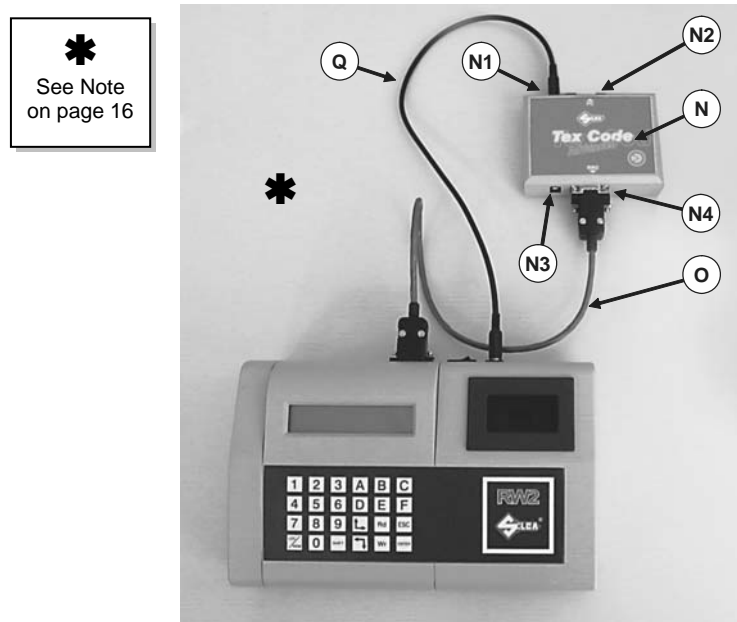
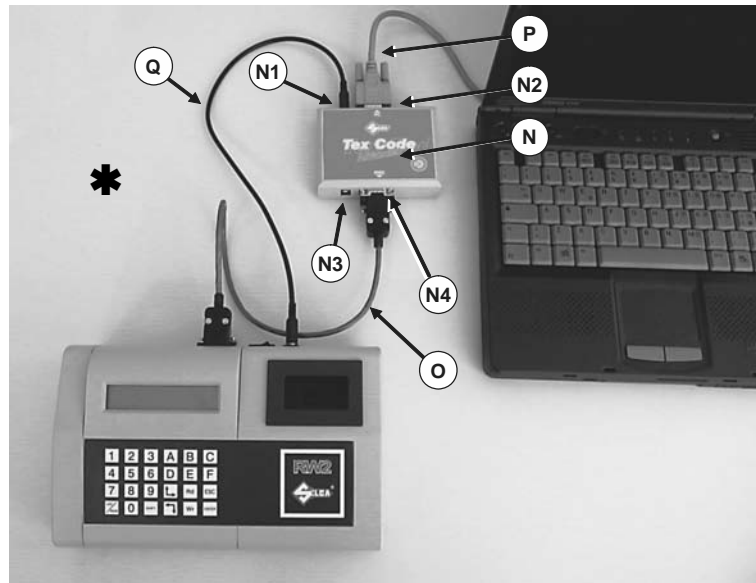
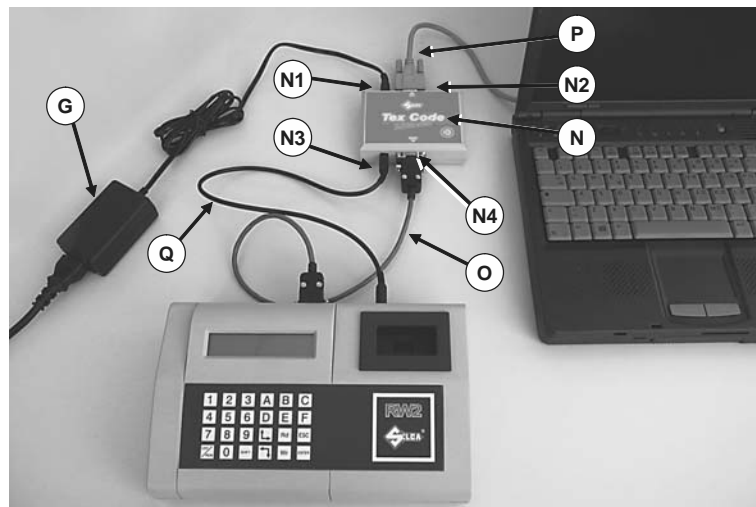

Fig. 6
Fig. 9
Fig. 10
The two figures "Fig. 6" and "Fig. 7" show the various uses for the machine and module.
Software for both the machine and the module is upgraded separately and independently through the connections shown in "Fig. 9" or "Fig. 10". Use an RS 232 serial cable of less than 3 metres in length and follow the instructions provided with the upgrade floppy disk.
**\*** **Note (Figure 6 and Figure 9): configuration possible only for RW2s produced after 01/03/2000. These are identified by a red dot over the power inlet D (Figure 2, page 7). For RW2s without a red dot the only configurations possible are those shown in Figure 7 page 15 and Figure 10 page 16.**